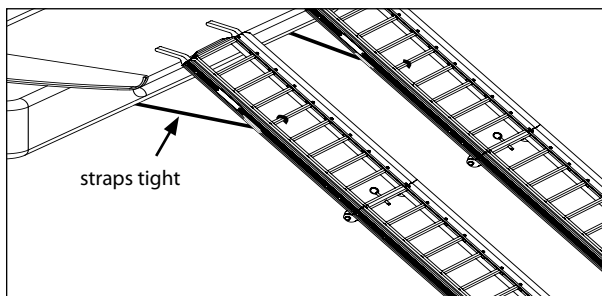

Figure 3
1. On level ground, rest both ramps on the tailgate. **SEE FIGURE 3.** Be sure ramps are centered on tailgate and aligned correctly to your four-wheeled ATV, UTV, or lawn tractor's wheel width.